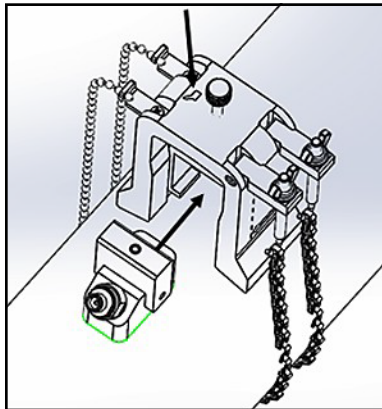

Figure 32: Insert Transducer into Yoke
8. Loosen the yoke screw. Then, apply couplant to the transducer face and insert the transducer into the yoke, as shown in Figure 32 below.